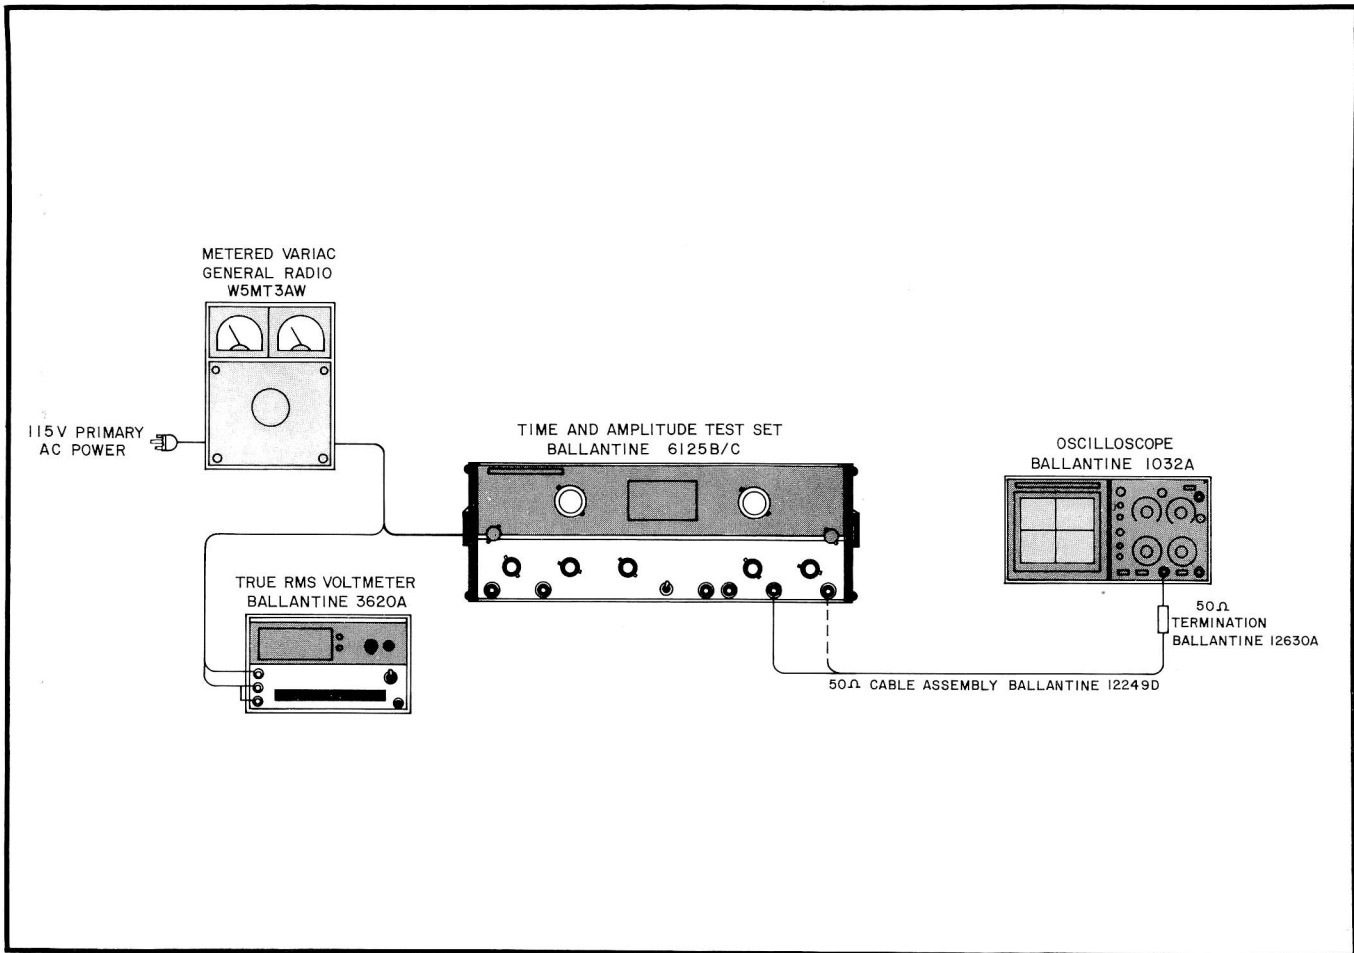

Figure 5-2. Trigger and Marker Amplitude Check, Bench Test Setup.
a. Interconnect the generator and the test equipment as shown in Figure 5-2.
a. Refer back to the control settings of paragraph 5-10d and the test setup of Figure 5-2, except disconnect the cable from the MARKER OUTPUT connector and reconnect it to the TRIGGER OUT connector. Also, set the TRIGGER PERIOD to 100 nS and the oscilloscope TIME/CM switch to 1 μ s. Activate the X10 MAG knob to X10 magnifier position for a sweep of 0.1 μ s/cm.